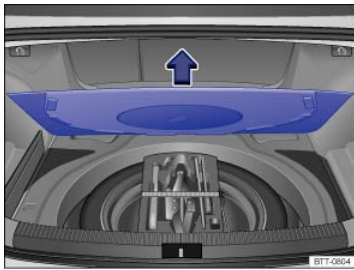

Fig. 166 In the luggage compartment under the floor panel: Compact spare wheel and vehicle tool kit.
The vehicle tool kit is in the luggage compartment in one of several places, such as under the luggage compartment floor panel ⇒ Fig. 166. It is secured with a strap and a strap lock.
- Grasp the floor panel by the handle and lift it up in the direction of the arrow ⇒ Fig. 166; remove it if necessary.